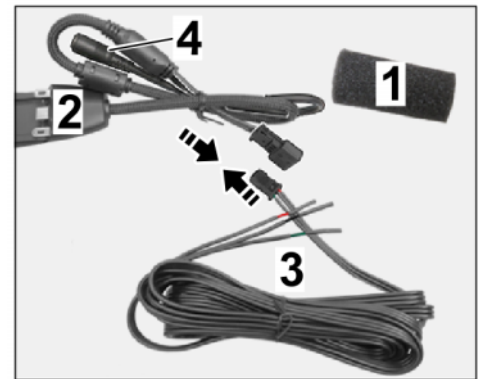

Figure 12
3.1.2 Connect plug connection (3-pin) (⇒ *Figure 12 -Arrow-*).